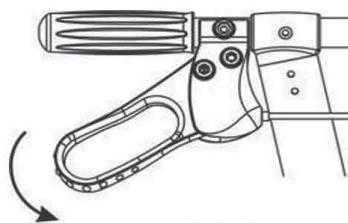

Fig. 2
2. To activate the parking brake, push the brake lever down until it locks (Fig. 2).